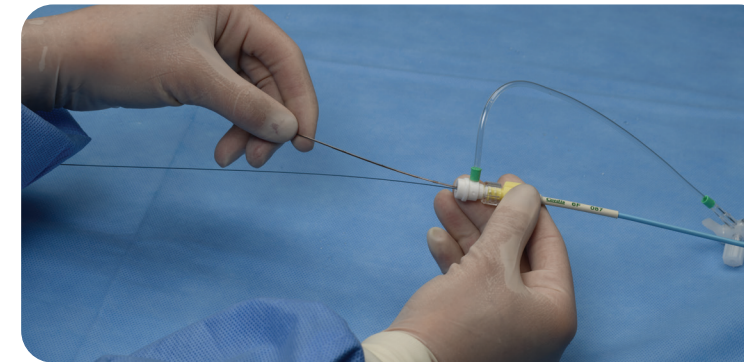

Figure 12
- B. Carefully advance the catheter through a guide sheath through the percutaneous entry site. (Figure 12)